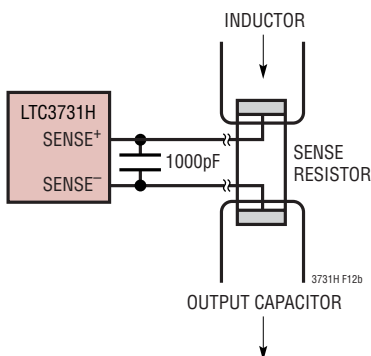

Figure 12. Kelvin Sensing  $R_{SENSE}$
3) Are the SENSE– and SENSE+ printed circuit traces for each channel routed together with minimum PC trace spacing? The filter capacitors between SENSE+ and SENSE– for each channel should be as close as possible to the pins of the IC. Connect the SENSE– and SENSE+ pins to the pads of the sense resistor as illustrated in Figure 12.